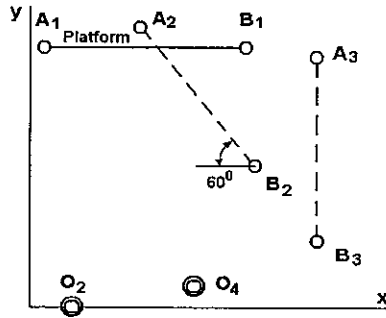

Fig. Q5
5. Fig. Q5 shows three positions of a platform defined by coordinates:  $A_1(5, 150)$ ,  $B_1(105, 150)$ ,  $B_2(110, 75)$ ,  $A_3(165, 100)$ . If the platform is to be positioned by a 4-bar chain with the axes of driver and driven links at  $O_2$  and  $O_4$  respectively coordinates being  $O_2(10, 0)$  and  $O_4(75, 10)$ . Design the linkage graphically. 20